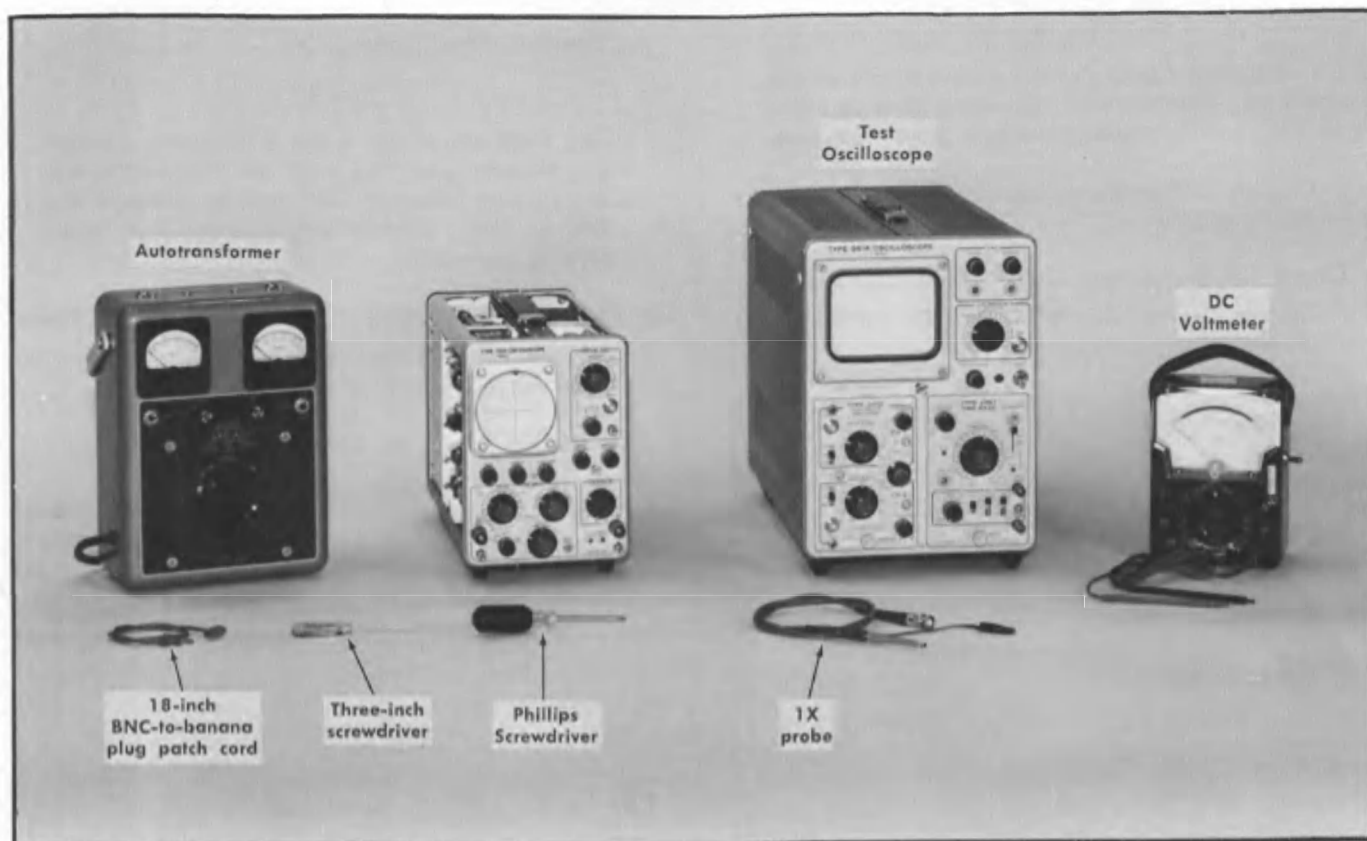

Fig. 5-1. Equipment required for steps 1 through 9.
Steps 1 through 5 are not applicable to a performance check. Set controls as given following Fig. 5-1 and begin with step 6.
a. Equipment required for steps 1 through 9 is shown in Fig. 5-1.